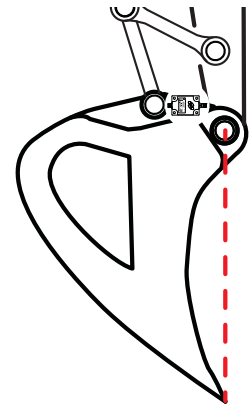

Figure 72: Set the Pitch Value to -90.0°
- Tap **Set** next to **Pitch**, enter the **Pitch** value as -90.0 degrees, and tap **Set** again (Figure 72).